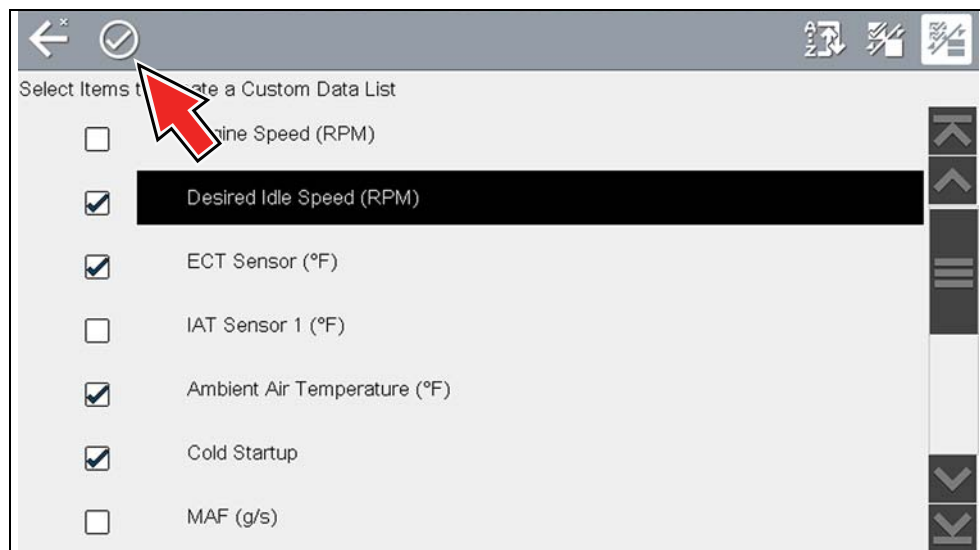

Figure 5-13
2. Create a custom data list by selecting (check mark) the parameters to include (Figure 5-13).
3. To create and view the custom list, select the **Accept** icon (Figure 5-13).